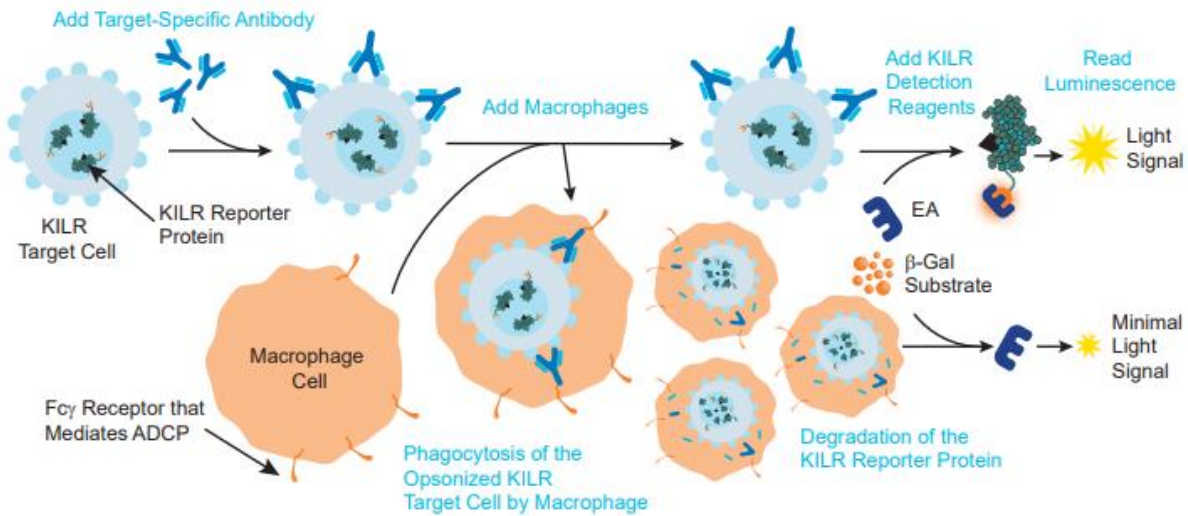

Figure 1: KILR Technology Principle and KILR ADCP Assay Principle
Figure 1: KILR Technology Principle and KILR ADCP Assay Principle	2
Eurofins DiscoverX has developed a number of KILR target cell models to evaluate effector cell mediated target cell death, utilizing our proprietary Enzyme Fragment Complementation (EFC) technology, which measures complementation between two fragments of the β -galactosidase (β -gal) enzyme. Briefly, target cells expressing the desired antigen are engineered to stably express a housekeeping protein (the KILR reporter) tagged with a small fragment of the β -gal enzyme (ePL). When used in an ADCP assay, the KILR target cells are incubated with the antibody of interest and polarized human macrophages as effectors. ADCP results in engulfment of the target cells by the macrophages, leading to dose-dependent degradation of the KILR reporter protein. To quantify ADCP, the target cells are lysed in the presence of detection reagent containing the complementing β -gal fragment, Enzyme Acceptor (EA). Complementation of the two enzyme fragments (EA and ePL; see Figure 1) produces an active enzyme, which hydrolyzes a chemiluminescent substrate to generate a light signal. The signal measured from the wells is inversely proportional to the number of phagocytosed KILR target cells. In the absence of antibody or effector cells, the KILR target cells produce high basal RLU values when lysed in the presence of EA. However, very low signal is observed from KILR target cells that are actively phagocytosed by macrophages as the KILR reporter in the target cells is degraded. The KILR platform measures direct target cell death by phagocytosis hence no secondary bridging assay is needed.